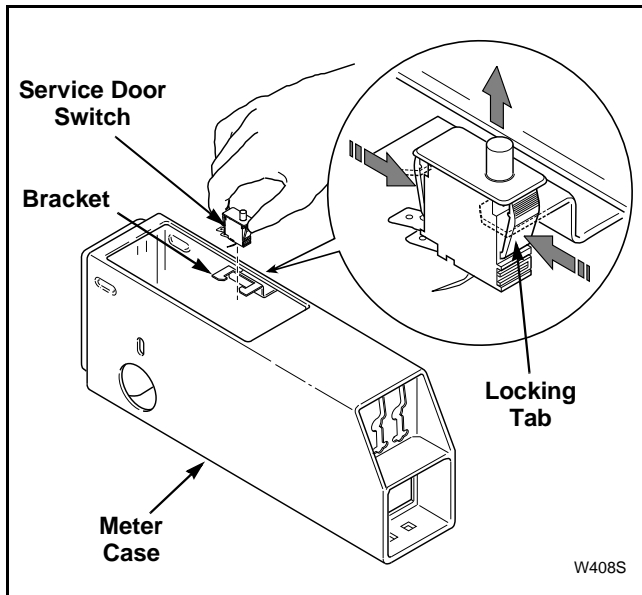

Figure 34
- (1) Unlock and open service door.
- (2) Disconnect wire harness from coin drawer switch and disconnect coin drop at disconnect plugs.
- (3) Press in on locking tabs of service door switch and remove switch from bracket on meter case, as shown in *Figure 34*.
- (2) Disconnect wire harness from service door switch and disconnect coin drop at disconnect plugs.
- (1) Place coin drop into the meter case, align holes with guide wires, and slide into position.
- (2) Position the coin drop all the way to the front.
- (3) Place one nut, smooth end first, onto a guide wire and slide to front of coin drop. Slide mounting tool (from kit CK096) over guide wire and insert guide wire into hole in mounting tool (located on notched end of mounting tool).
- (4) Tighten nut with mounting tool, using mounting tool handle for increased leverage.
- (5) Repeat for other nut.
- (6) Check guide wire on right side for interference with coin return. If interference is found, the rod may need to be adjusted away from the drop.
- (7) Replace service door switch in bracket on meter case. Refer to *Figure 34*.
- (8) Reconnect wire harnesses to coin drop and switch.
- (9) Replace and lock service door.